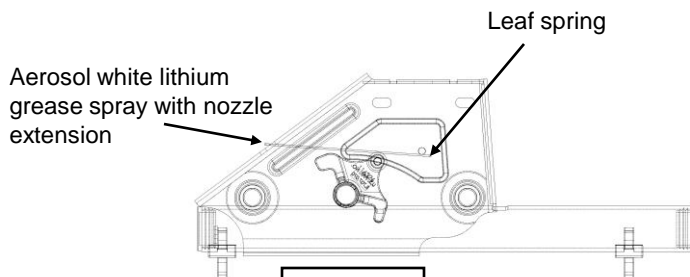

Figure 7
2. Before installing REESE™ FIFTH Wheel Slider, the leaf spring must be greased as shown using white lithium grease or equivalent (see Figure 7). For best results, use aerosol white lithium grease with a spray nozzle extension. Make sure entire underside of spring is coated! Repeat this application monthly during use.